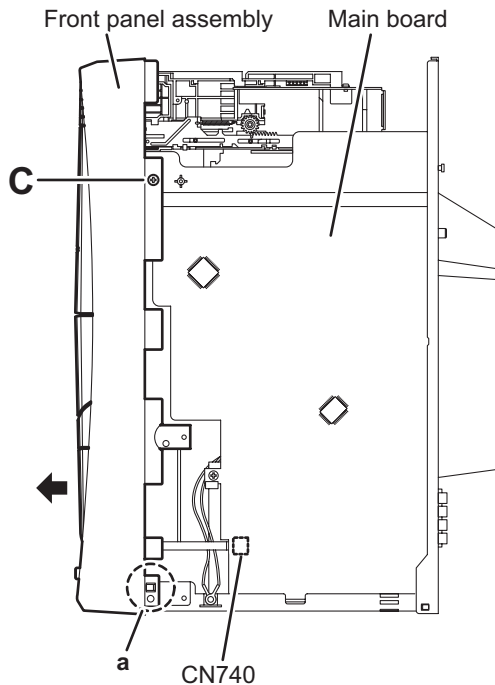

Fig.3
3.1.2 Removing the front panel assembly (See Fig.3 to 5)
- (1) From the right side of the main body, disconnect the card wire from the connectors CN740 on the reverse side of the main board. (See Fig.3)
- (4) From the both side of the main body, remove the two screws **C** attaching the front panel assembly to the main body. (See Fig.3, 4)
- (6) From the both side of main body, release the claws **a** and remove the front panel assembly from the main body in the direction of the arrow. (See Fig.3, 4)